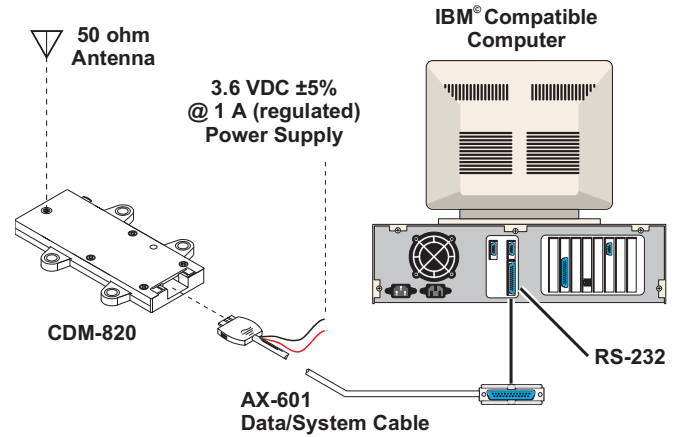

Figure 2. - Computer Connection
2. Route the AX-601 Data/System Cable from the 22 pin system connector on the CDM-820 to the Serial Communications port on the computer. (see Fig. 2)